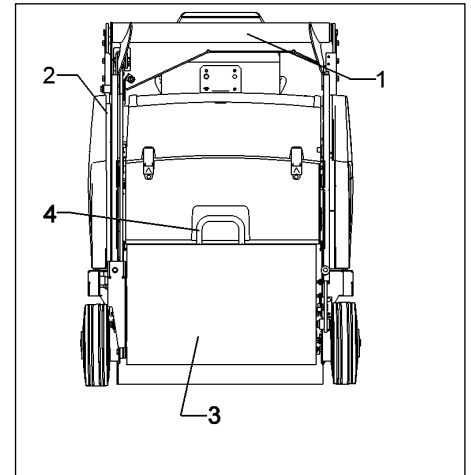

Fig.9
- Hopper (Fig. 9/3) is lifted-out
Should the hopper not be completely emptied after swinging, proceed to manual shaking with the handle (Fig. 9/4).